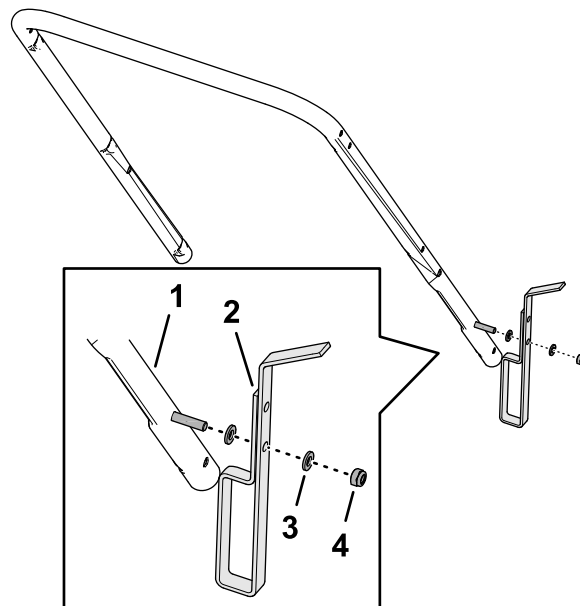

Figure 4
2. Align the hole in the footstop with the bolt in the lower handlebar (Figure 4).